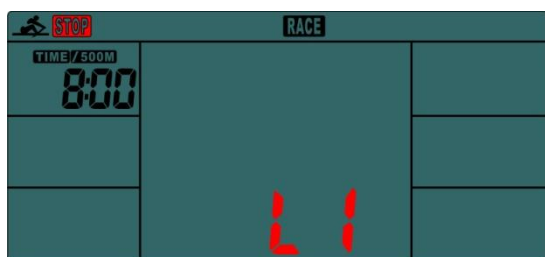
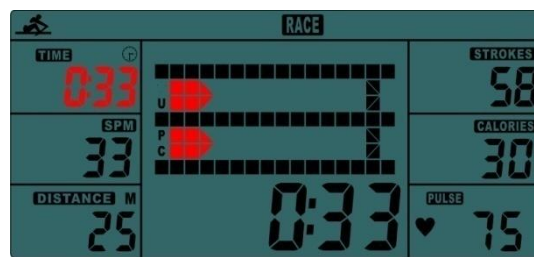

Fig.5
Fig.6
II. RACE (Fig.5):
A. Press "START" button to start and "STOP" will disappear. "USER" and "PC" will display in the matrix (Fig.6). The computer will stop when either user or computer has reached the race distance that was set. Then the matrix displays "PC WIN" or "USER WIN" (Fig.7).
ONLY ARM ROWING: This workout should tone your arm, shoulder, back and abdominal muscles. Sit on the machine as shown in Fig. 4. Straighten your legs, lean forward and grasp the handles. Control your moving and gradually lean back to just past the up-right position (Fig. 5) and continue to pull the handles towards your chest (Fig. 6). Return to the starting position and repeat.